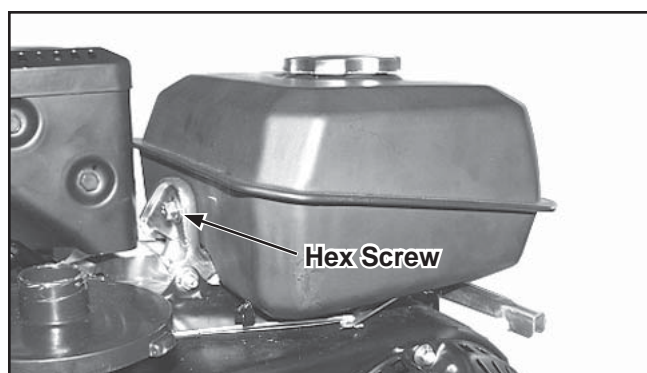

Figure 11-81. Installing Fuel Tank.
1. Position the fuel tank on the mounting brackets. Secure with hex screws on the inner mounting bracket and on the PTO side strap. See Figure 11-81.